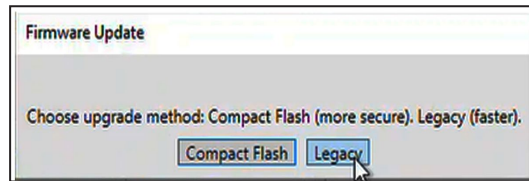
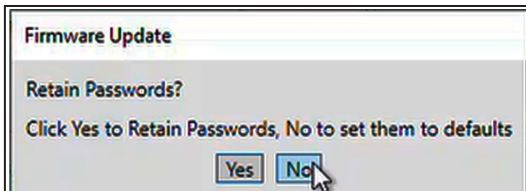

Figure 28. The Firmware Update dialog box upgrade method choice for the SDA-4540R2 control.
Figure 32. The Firmware Update dialog box requesting password retention.
STEP 8. The Firmware Update dialog box will prompt for selection of the upgrade method. Click on one of the options to proceed. See Figure 28 for the SDA-4540R2 control options and Figure 32 on page 28 for the SDA-4540R3 options.
STEP 11. When upgrading the firmware from 7.3.x to 7.5.x and the Firmware Update dialog box prompts to retain passwords, click on one of the options to proceed. See Figure 32.